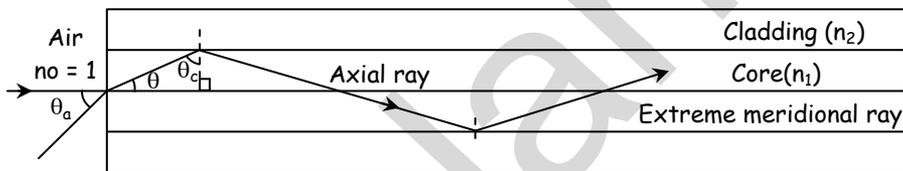

Fig. 2: Multimode step index fiber
- Fig. 2 shows relationship between radiation from a bent and field strength.